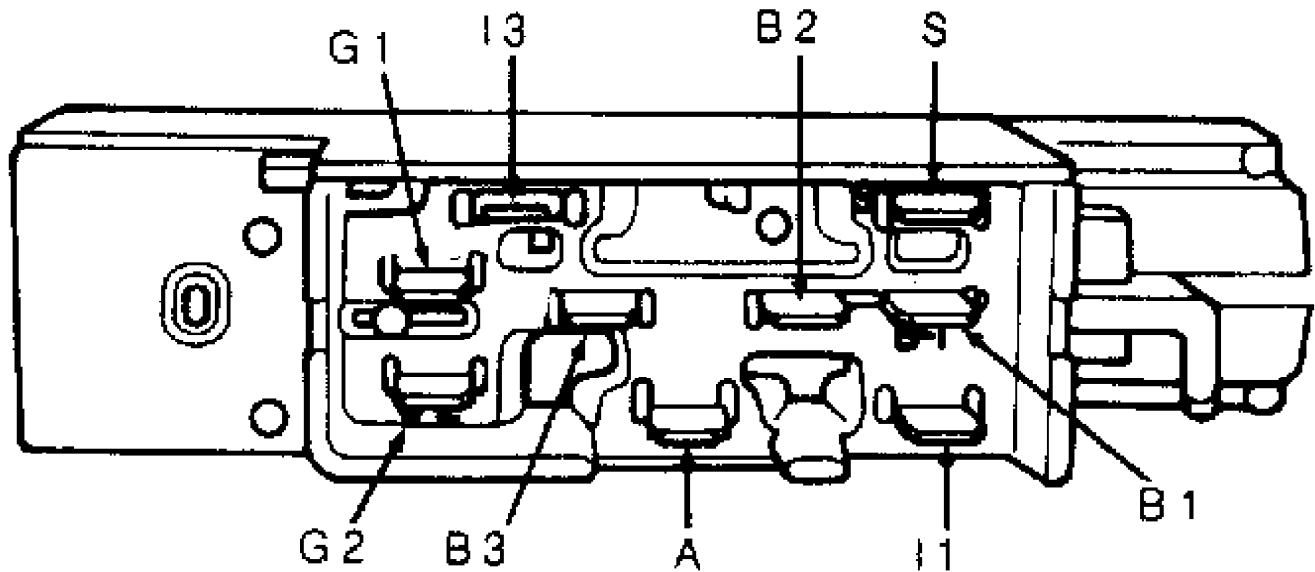

Fig. 2: Locating Ignition Switch Terminals
1) Remove ignition switch. See IGNITION SWITCH R & I under REMOVAL & INSTALLATION. Using an ohmmeter or self-powered test light, check ignition positions for continuity between terminals. See Fig. 2. Also, see the IGNITION SWITCH TERMINAL CONNECTIONS table.